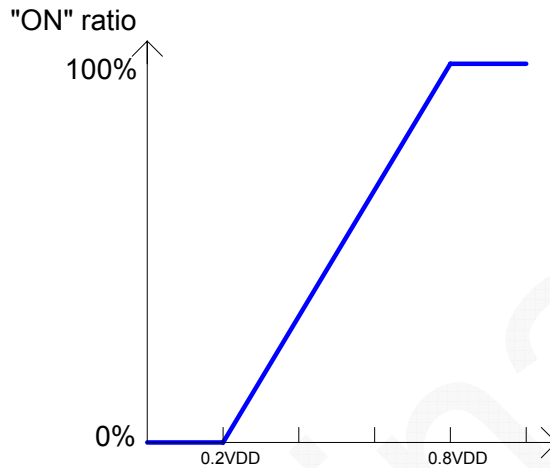

Fig.4
Applying a constant(DC) voltage to the PWM pin and the FD0255b will generate PWM pulses internally with the "ON" duty cycle ratio according to the diagram below(Fig.4), which can be utilized by the user to control the speed of the motor. The rotation speed will be higher if the voltage applied to the PWM pin is higher.